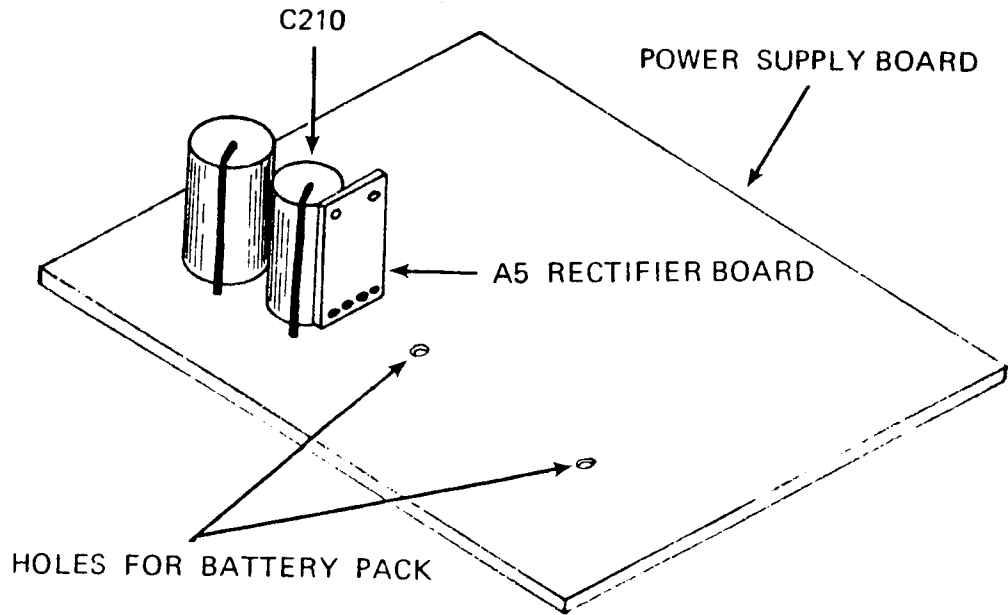
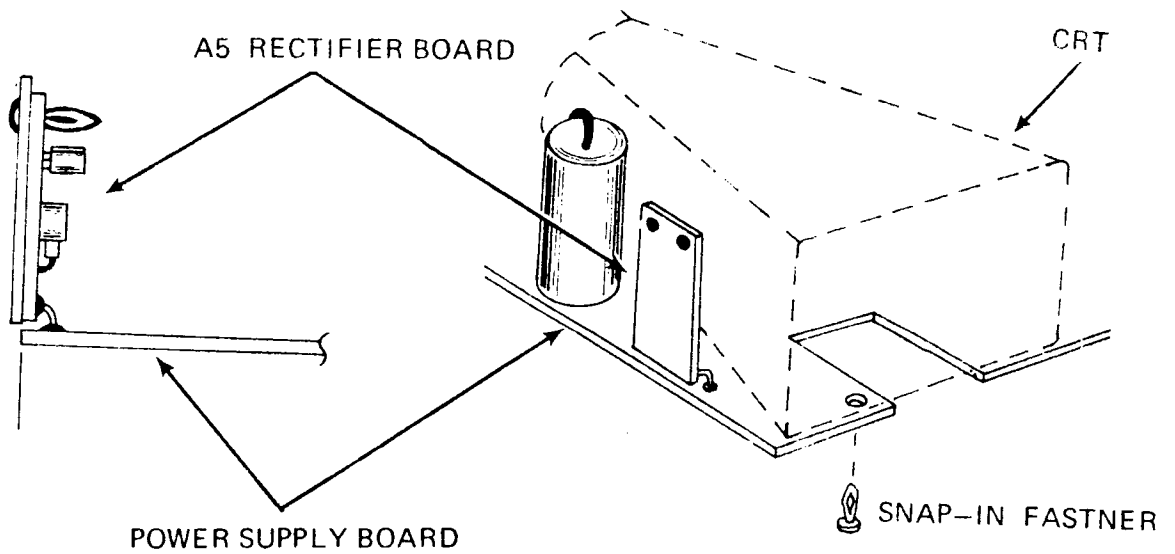

Fig. 1 - Power Supply circuit board
Fig. 2 - Snap-in fastener installation
- ( ) 11. Solder the Rectifier circuit board (A5) into the holes vacated by CR215. For 211's, the front (component side) of the Rectifier circuit board should face C210 (See Fig. 1). For 212's and 214's, the front of the Rectifier circuit board should face the crt (See Fig. 2). Clip any long leads flush with the board.
- ( ) 12. On 212's and 214's, add the snap-in fastener to the Power Supply circuit board as shown in Fig. 2.